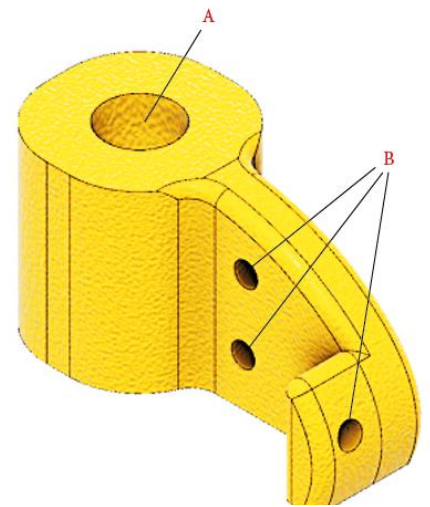

Figure 9
- Another characteristic to consider here is the length of the proboscis of visitors, this because they need to be able to reach the bottom part of the nectar cup. The proboscis length varies among species and is an ecological important factor in assessing which species have access to floral rewards. The hole in this nectar cup (Fig. 9, A) has a diameter of 3 mm (to match the
- The nectar cup has three holes (Fig. 9, B) through which the part of the servo-arm, consisting of steel wire (diameter 0.8 mm), can be attached. The other end of the servo-arm is clipped on the spindle of the servomotor. Because the servo-arm partly consists of steel wire, it can be manipulated manually to achieve a close fit between the nectar cup and the central flower disk, so that both holes are matching (see Fig. 8). More information in part '7.2 Attaching servo arm'.